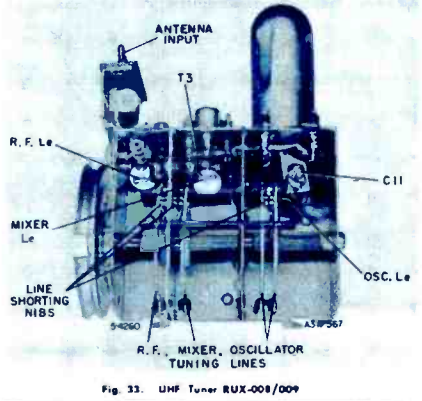

Fig. 33. UHF Tuner RUX-008/009
- Set UHF marker and sweep generators to 460 megacycles. Rotate UHF tuner shaft fully counterclockwise. Adjust oscillator screw, C11, Fig. 33, to make 460 mc marker coincide with "notch."
- Set generators to 910 megacycles and rotate UHF tuner shaft fully clockwise. Adjust oscillator end inductor, Fig. 33, with a plastic crochet needle, to make 910 mc marker coincide with "notch."